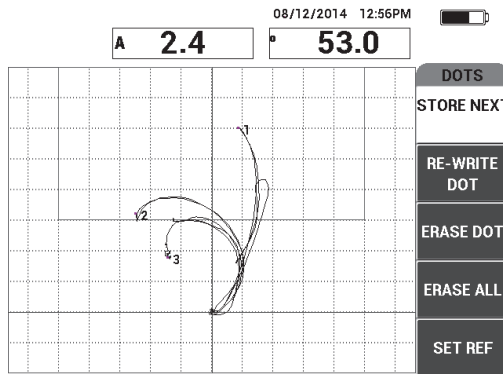

Figure 6-50 The third dot recorded
8. Slowly glide the probe over the third disbond, and then press **STORE NEXT** (A key) to record the third dot (see Figure 6-50 on page 165).